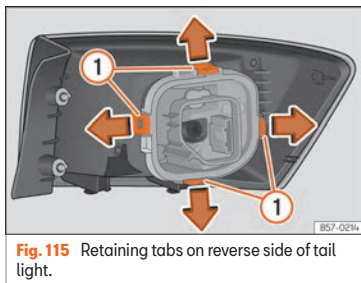

Fig. 115 Retaining tabs on reverse side of tail light.
7. Disassemble the bulb holder unlocking the securing tabs » **Fig. 115 ①**.